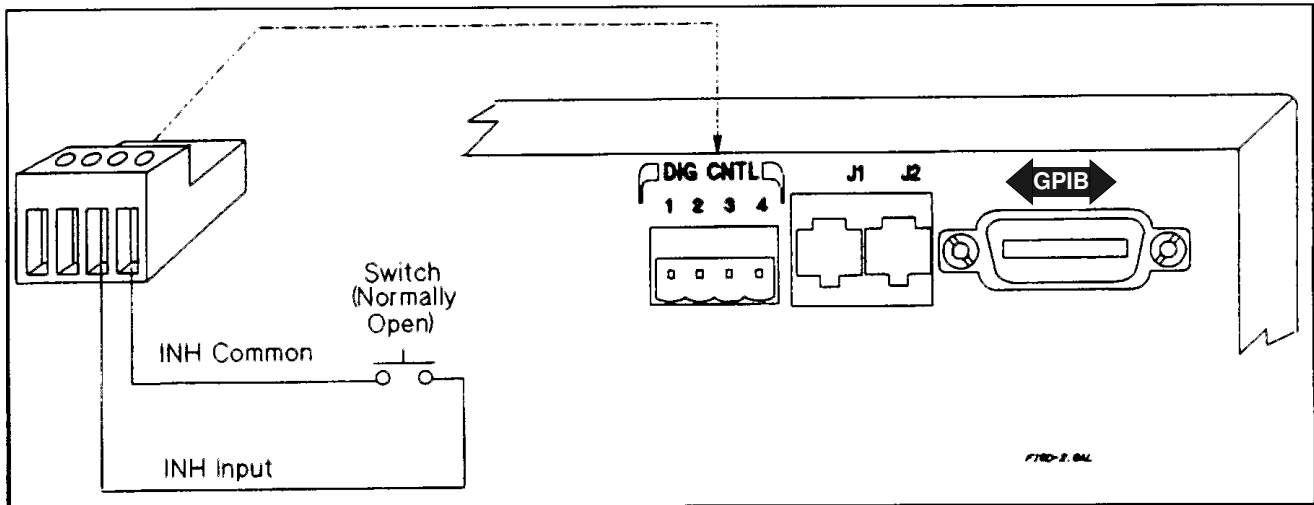

Figure C-2. Example of Inhibit Input
In Figure C-2, the INH input is connected to a switch that shorts pin 3 to pin 4 whenever it is necessary to externally disable the output of the supply. This will activate the remote inhibit (RI) fault protection circuit, causing the front panel **Prot** annunciator to come on. It also sets the RI event bit in the supply's Questionable Status Event register (see chapter 8 - Status Reporting). To re-enable the supply after it has been disabled by the INH input, first open the connection between pins 3 and 4. Then clear the protection circuit either from the front panel (see chapter 5) or over the GPIB (see chapter 8).